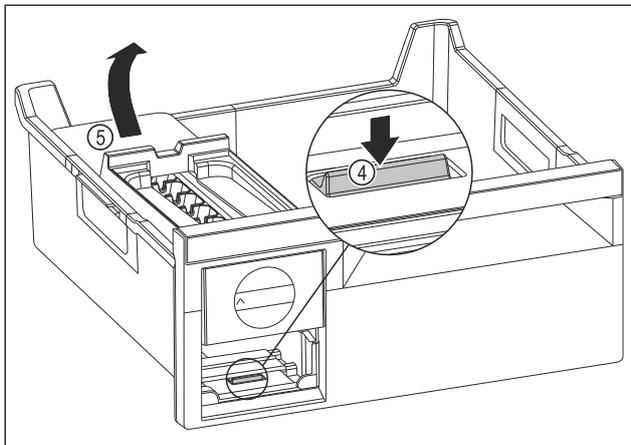

Fig. 112
- ▶ Removing the EasyTwist-Ice body: Use your finger to push the tab Fig. 112 (4) down and use your other hand to lift the EasyTwist-Ice body Fig. 112 (5) from behind at the same time.